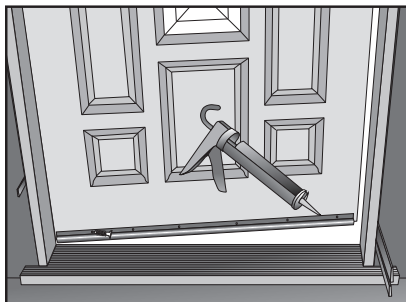

Fig. 33
- Install the door sweep onto the bottom of the door. Attach using 1/4" screws on face of door sweep. Run a bead of caulk on the top exterior outer edge to prevent water from entering the sweep (**Fig. 33**).